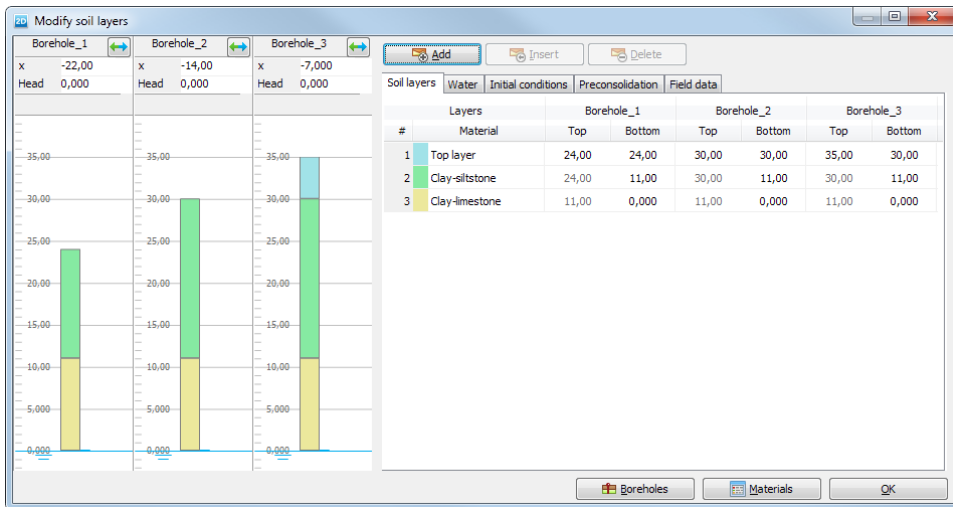

Figure 7.2 Soil layer distribution
- Specify the soil layer distribution as shown in Figure 7.2.
- Create soil material data sets according to Table 7.1 and assign them to the corresponding layers (Figure 7.2).